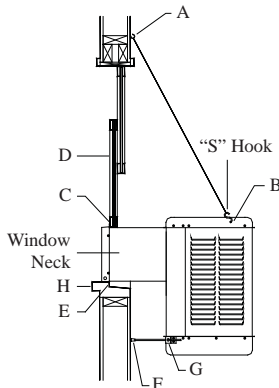

Fig. 2
- **NOTE:** If installing unit without the use of the installation kit, omit these directions and those pertaining to Fig. 2.
- **Screw chain hooks into window facing.** Position the two chain hooks above the neck of the cooler a distance equal to the width of the cooler apart (A-Fig. 2). Hook one hanger chain in each hook and then one "S" hook in the other end of each chain. **NOTE:** Chain hooks supplied with this mounting kit have wood screw threads for wood walls. Concrete, brick walls or concrete blocks require sufficiently strong wing nuts or anchors with mating hooks.
- **Position cooler in window.** Position neck of cooler so that the flange (E-Fig. 2) is snug against edge of sill (H-Fig. 2). With cooler in position, hook the "S" hooks into the holes of the top pan near the back of the cooler (B-Fig. 2).
- **Place window behind retainer strip.** Raise back of cooler so that the window (D-Fig. 2) may be brought down behind top of panel retainer strip (C-Fig. 2).
- **Adjust house legs.** Pull out house legs so that the rubber bumpers rest against house siding (F-Fig. 2). Tighten screw in retaining collar (G-Fig. 2).